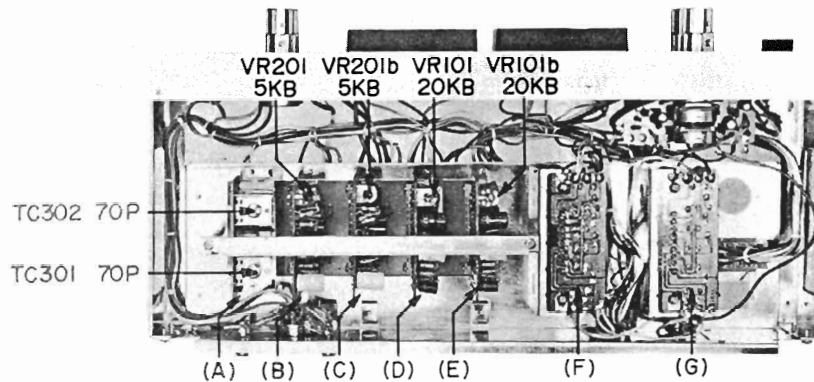

Fig. 16
- 4) Adjust the Playback Amp. P.C. Board playback level adjustment semi-fixed resistor VR10I 50 k Ω (left ch.) and VR10Ib 50 k Ω (right ch.) shown in Fig. 16 so that the High Sensitivity V.T.V.M. indication is 4 dB (1.228V).
- 5) Set the Monitor Switch to SOURCE position and adjust Recording Amp. P.C. Board recording level adjustment semi-fixed resistors VR201 5 k Ω (left ch.) and VR201b 5 k Ω (right ch.) shown in Fig. 16 to obtain a Line output level of 4 dB.
- 3) Under these conditions, adjust OSC. P.C. Board frequency response adjustment trimmer condensers TC301 70P (left ch.) and TC302 70P (right ch.) shown in Fig. 16 to obtain an equally flat frequency response at 1,000 Hz and 10,000 Hz.